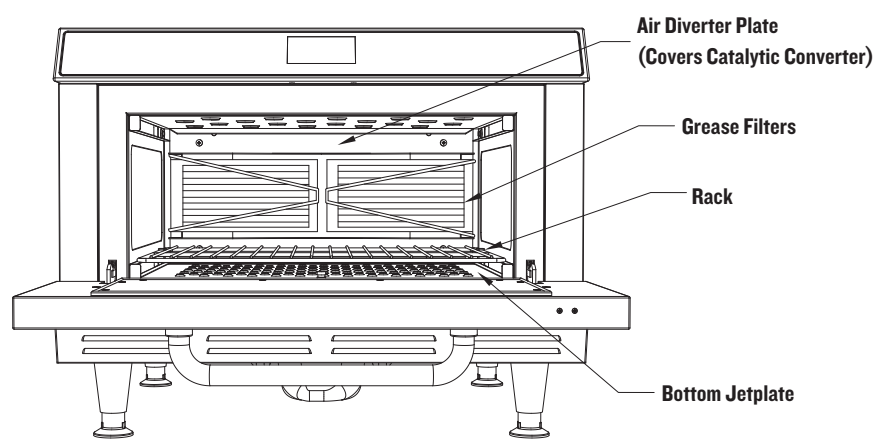

FIGURE 7: Cook Cavity
4. If additional clearance is required for removing the top jetplate, remove the rear air diverter assembly using a Philips screwdriver (Figure 7, page 11).
The procedures below will help in maintaining the High h Batch oven. Be sure to use only TurboChef Oven Cleaner. Using any other cleaning products can damage critical parts and may void warranty on those parts. Refer to Figure 7 to view the cook cavity components.
TurboChef recommends deep cleaning the oven once a month (or more frequently, depending on use) to ensure optimal performance. Be sure to use only TurboChef Oven Cleaner. Using any other cleaning products can damage critical parts and may void warranty on those parts. Reference Figure 7 to view cook cavity components.
- If necessary, remove filter by first unhooking the filter clip (HHB-8115), which is attached at the center of the Air Diverter Plate. See Figure 7.